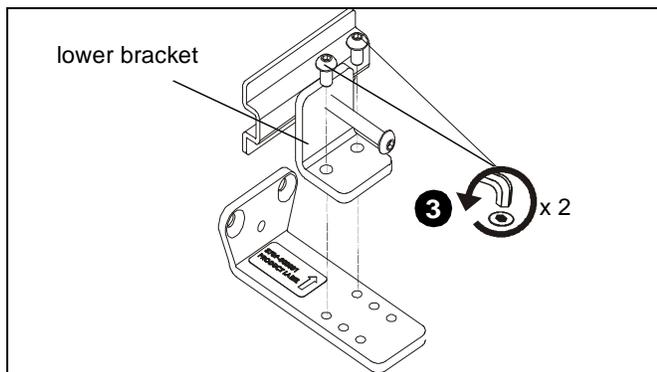

Figure 2
3. Remove lower bracket from KRA219 clamp bracket by removing two screws holding it to clamp bracket. (See Figure 2)